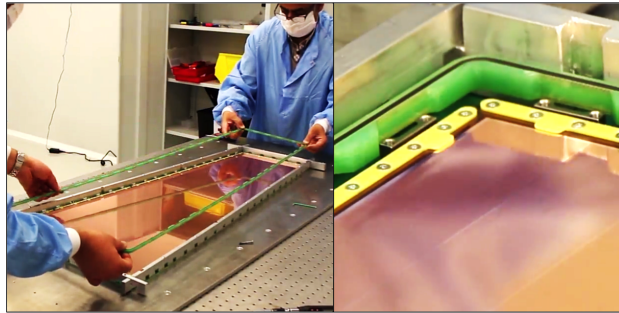

Figure 108: Inserting the external frame.
Step 1: Place the external frame between the GEM stack and the aluminum bars (Fig. 108). If the frame does not fit, simply unscrew the aluminum bars and adjust their position to accommodate the frame without stress. Then mount back the bars on the jig baseplate.